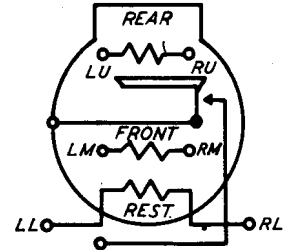

FIG. 7 - WINDING TERMINAL ARRANGEMENT AS VIEWED FROM THE REAR (TERMINAL SIDE) - 44 TYPE RELAY
2.08 As viewed from the front, the armature (frame terminal) is indicated by 1 and the make contact screw by 2. As viewed from the rear of the relay, the winding terminals are designated as shown in Fig. 7.